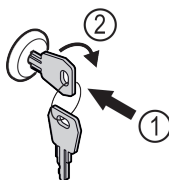

Fig. 240
- ▶ Insert the key. Fig. 240 (1)
- ▶ Turn the key clockwise by 90°. Fig. 240 (2)